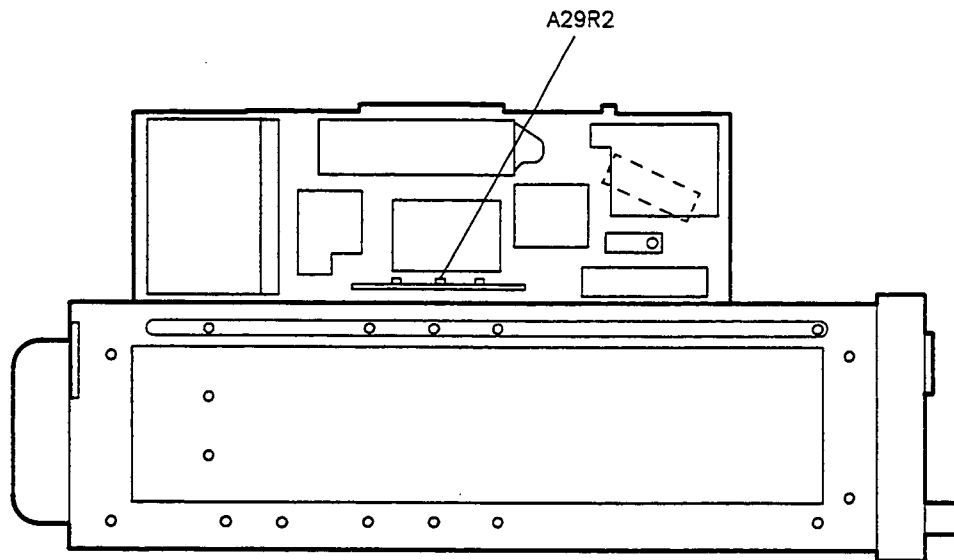

Figure 3-25. A29R2 Location
4. Preset the amplifier detector gain adjustment A29R2 fully clockwise (multi-turn potentiometer). See figure 3-25 for the A29R2 location.